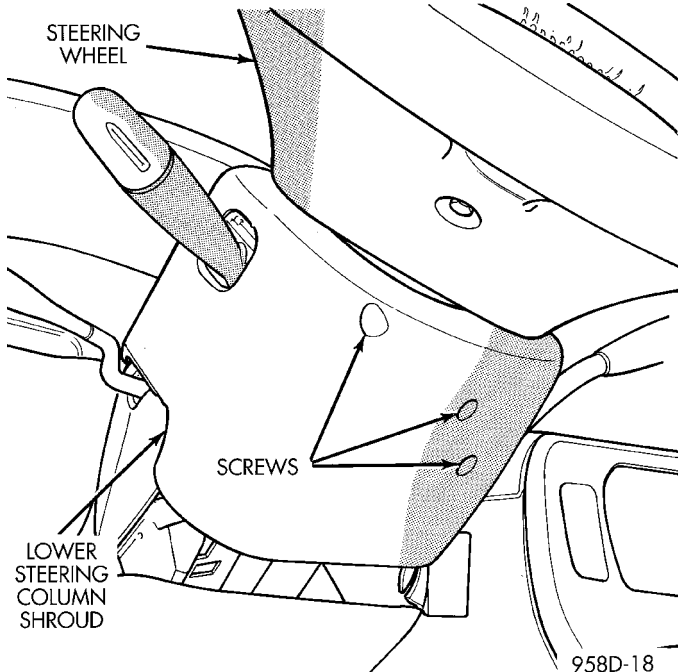

Fig. 5 Steering Column Shroud Screws
- (4) Remove screws holding steering column shrouds (Fig. 5) and remove lower shroud.